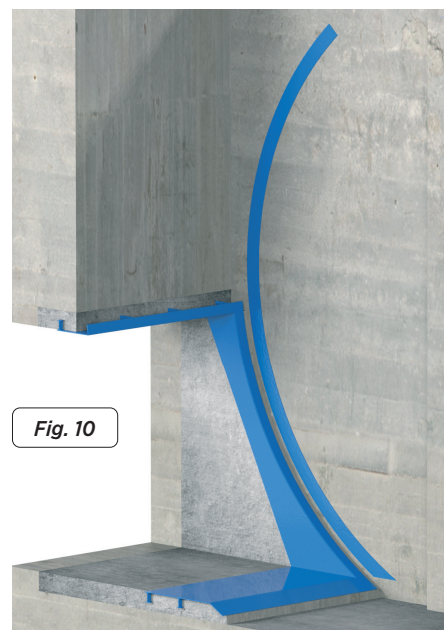

Fig. 10
- Once the mouth and the bases of the turning points and the cylinder fastenings are assembled, position the rolling strips on the civil engineering work (fig. 10). It is very important to position them correctly, respecting the levels shown in the general diagram and aligning them radially relative to the turning point, since they have to coincide with the side guide wheels with the penstock both open and closed. First they must be positioned provisionally until the stopboard has been used to check they are correctly positioned, proceeding with definitive fastening once the check is complete.